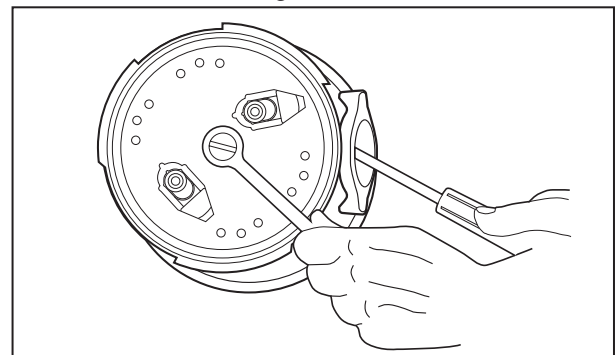

Figure 4.6
6. Remove plastic plug from rotating shredder. Secure rotor shaft from turning with 1/4" allen wrench in end of rotor shaft or by jamming rotating shredder with screwdriver through discharge outlet (see Figure 4.6). Remove nut or bolt securing rotating shredder plate to rotor shaft and remove. Pull rotor shaft out from upper end bell.